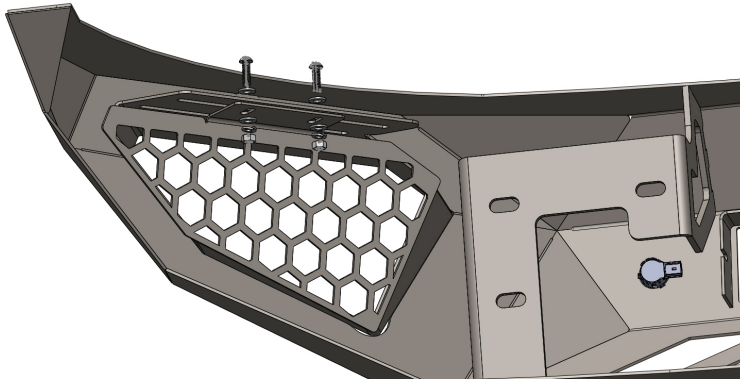

Figure 1
1. Using a 1/2" Open end wrench and 3/16" allen wrench, install the provided driver side mesh (21882) to the bumper using the provided 5/16"-18 x 1" stainless steel button head cap screw, flat washers, and nylock nut. (50050-HW) (Figure 1)